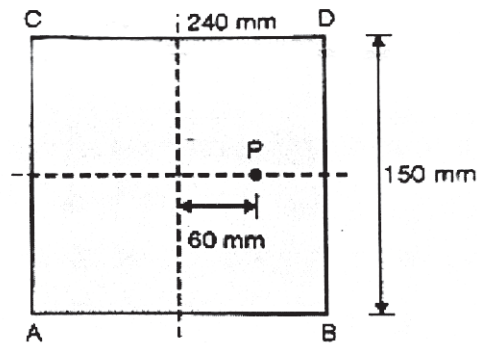

Fig 5
- Q7) a)** A rectangular column of $240\text{ mm} \times 150\text{ mm}$ is subjected to a vertical load of 10 kN placed at an eccentricity of 60 mm in a plane bisecting 150 mm side as shown in fig.5. Determine the maximum and minimum intensities in the section. **[10]**